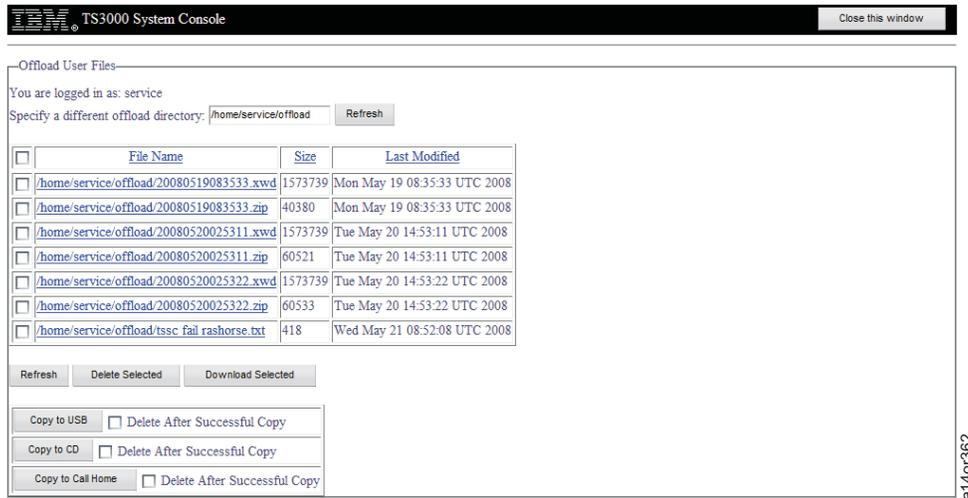

Figure 187. Offload User Files Menu Example. This example does not include Copy to Diskette.
4. Select **Offload User Files**. You see Figure 187 on page 144. The directory setting defaults to your user's offload directory. For the user **service**, you will be prompted for the directory you wish to download the data. The suggested directory is `"/home/service/offload"`. You can change to a different directory by adding another name in the "Specify a different offload directory" field, and clicking the **Refresh** button next to that input area. You can also change directories by clicking a directory name in the file list field.
Refresh	Refresh the screen (Figure 187)